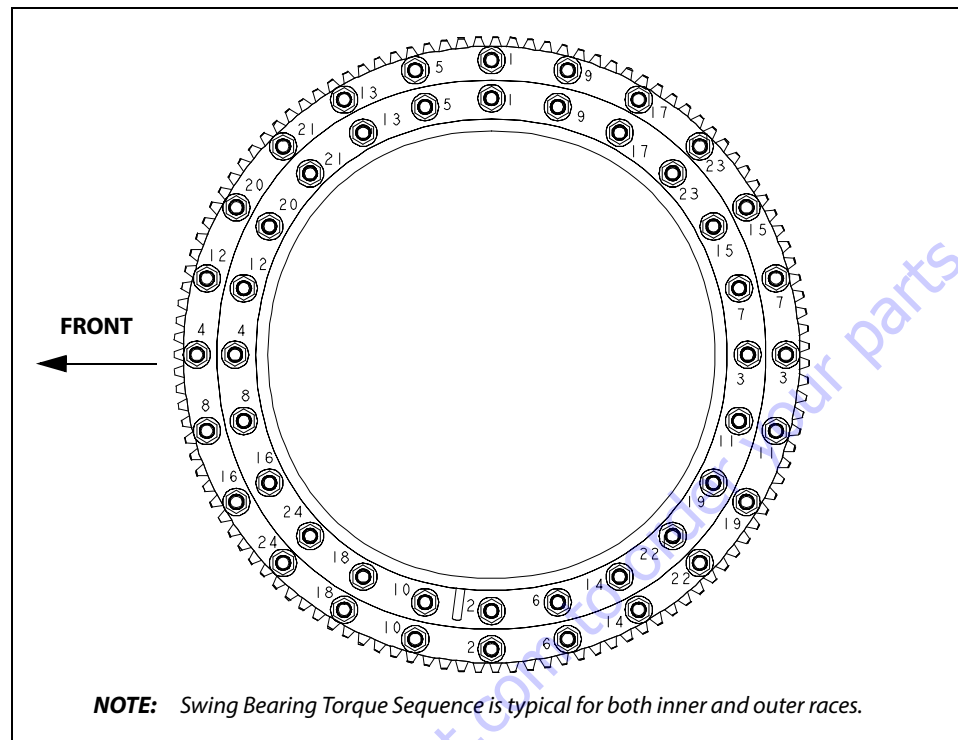

Figure 3-45. Swing Bearing Torque Sequence
3. Refer to the Torque Sequence diagram as shown in Figure 3-45., Swing Bearing Torque Sequence. Clean any residue off the new bearing bolts, then apply a light coating of JLG Threadlocker P/N 0100019 and install the bolts and washers through the frame and outer race of the bearing. Tighten the bolts to an initial torque of 190 Ft. lbs. (260 Nm) w/JLG Threadlocker P/N 0100019.
8. Following the Torque Sequence diagram shown in Figure 3-45., Swing Bearing Torque Sequence, tighten the bolts to a torque of 190 ft. lbs. (260 Nm) w/Loctite.